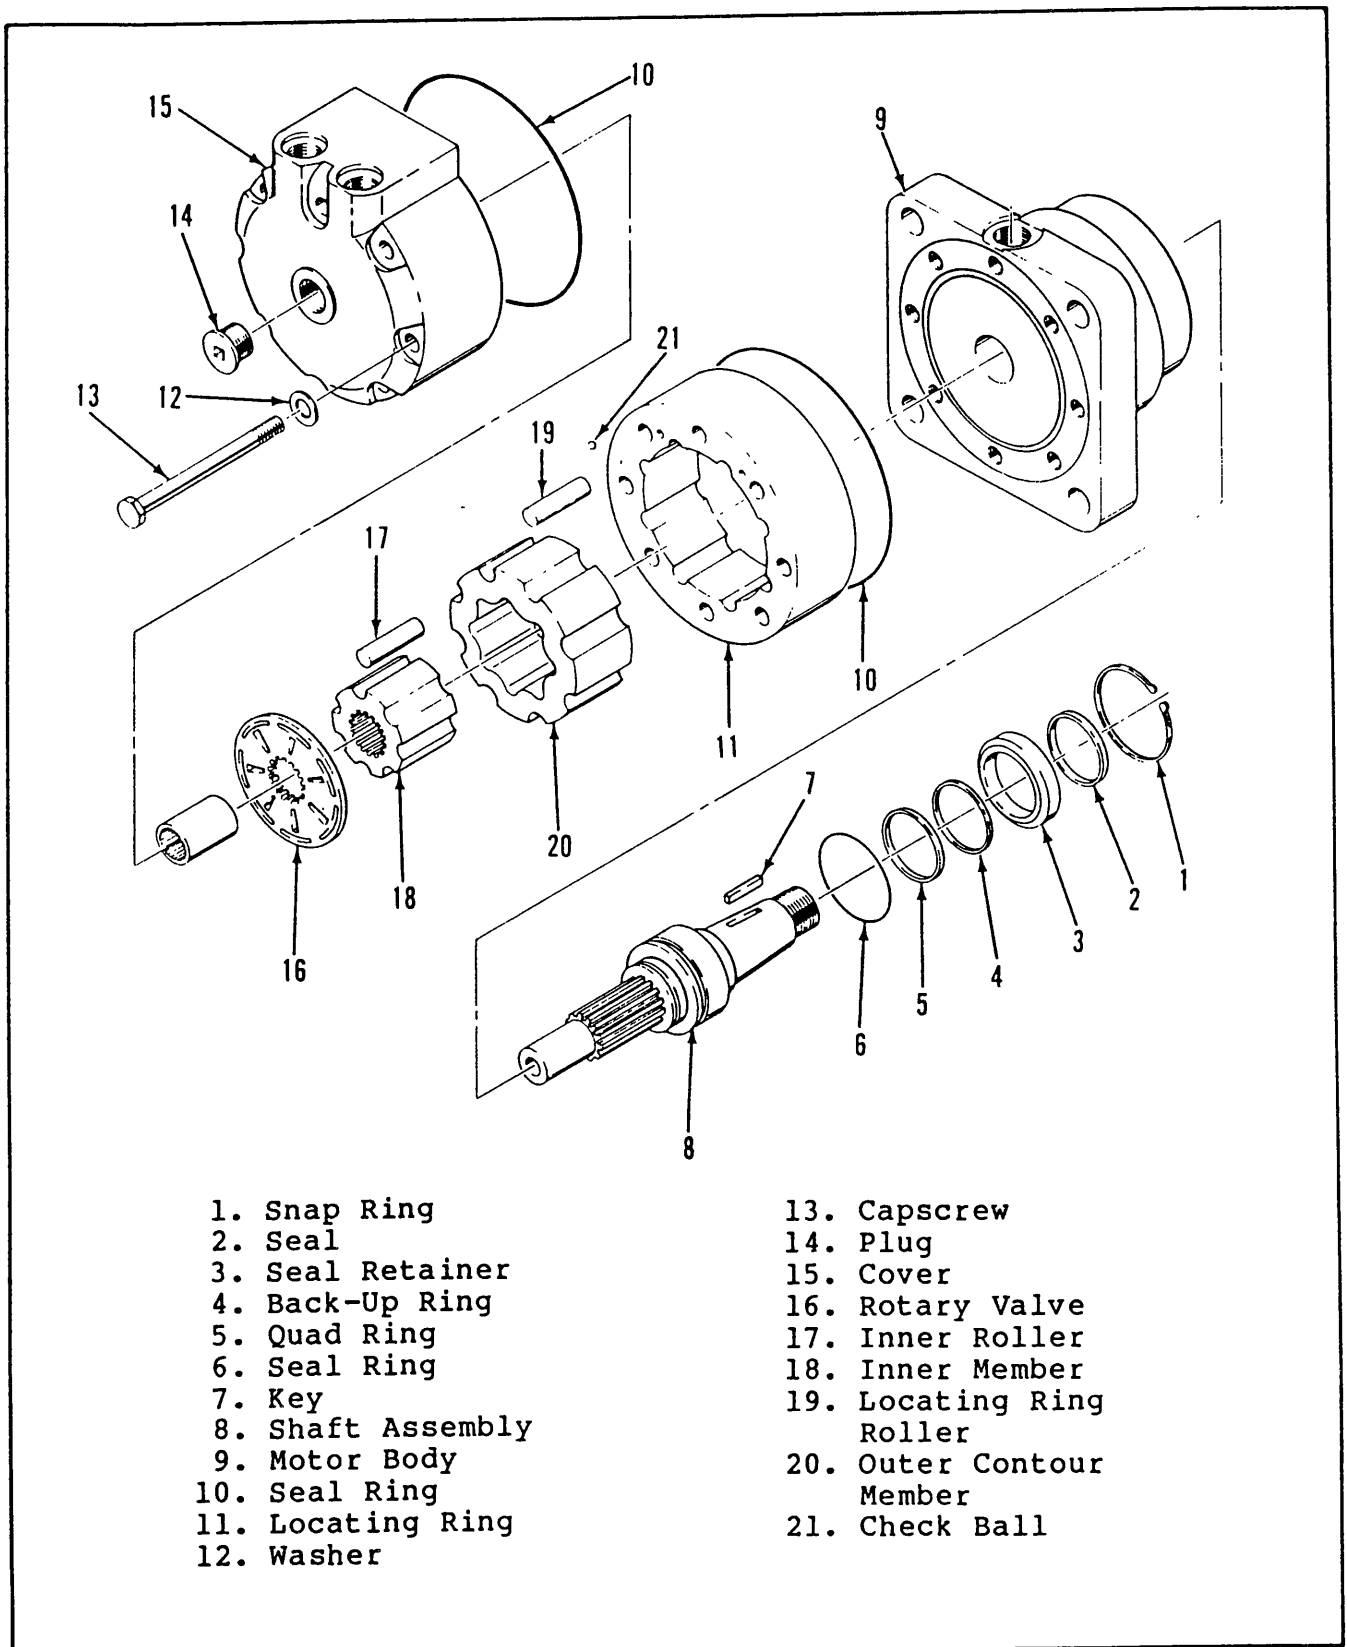

Figure 5-12. Drive Motor
(1) Refer to Figure 5-12. Place the drive motor on a clean, flat surface with the cover (15) face down.
(2) Remove the seal retainer snap ring (1).
(3) Using two screwdrivers, remove the seal retainer (3) using the slots provided.
(4) Remove the dust seal (2), quad ring (5) and back-up ring (4) and discard.
(5) Remove the seal ring (6) from the groove in the body bore and discard.